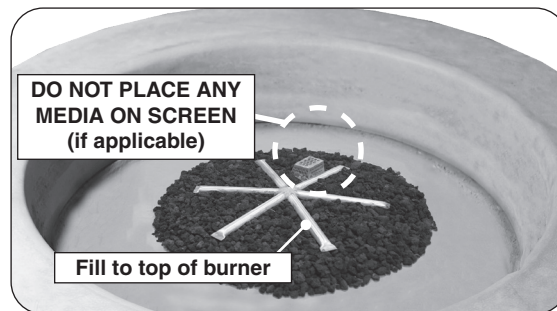
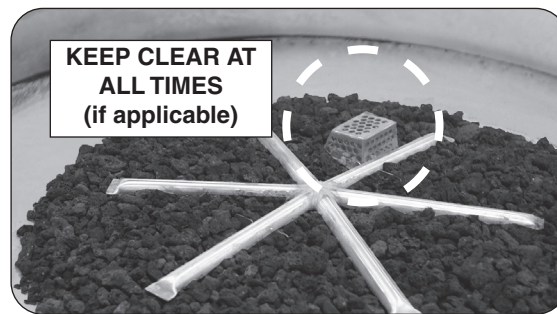

Fig. 38-1 Place lava granules
Fig. 38-2 Screen detail (if applicable)
1. Pour the 10 lb bag of lava granules into the burner area (with the exception of the screen - if applicable). Spread the granules within the burner area as shown in Fig. 38-1 and Fig. 38-2. **Only fill the granules up to the top of the burner tube.**